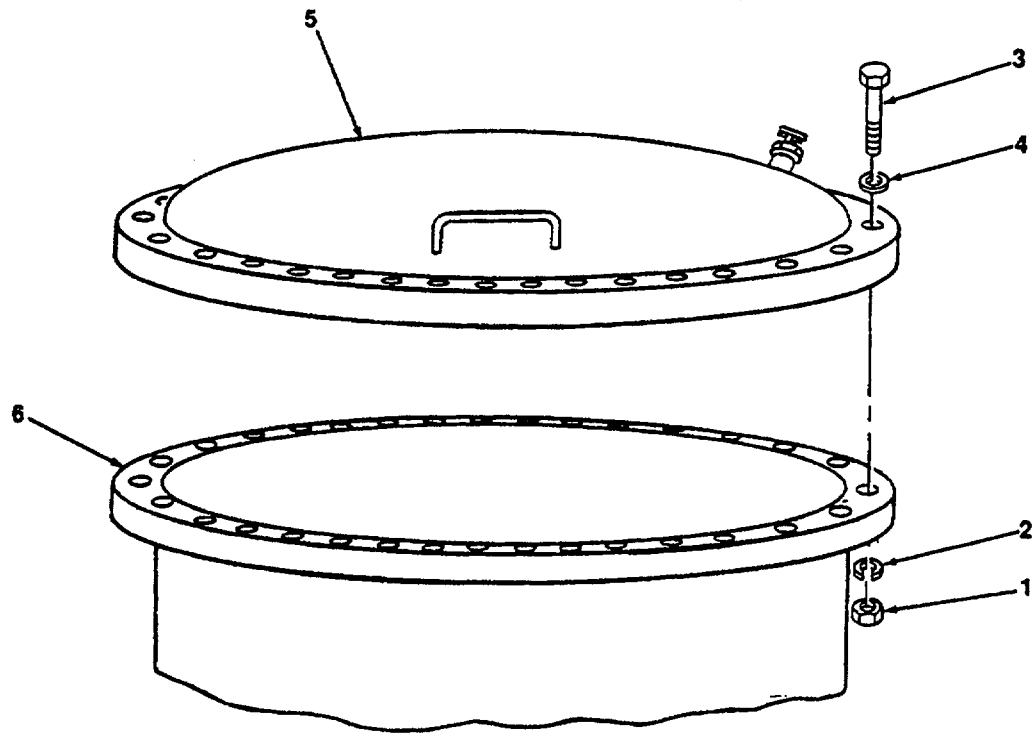
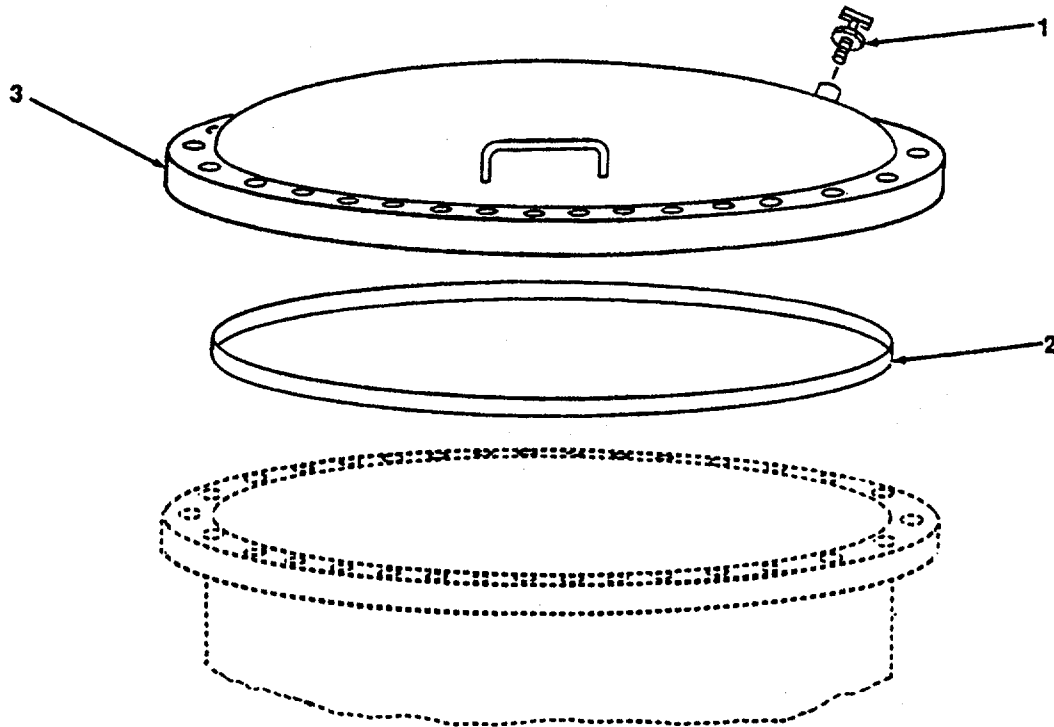

Figure 4-3. Cover Assembly, Replace
Figure 4-4. Cover Assembly, Repair.
a. Removal. (figure 4-3)
- (1) Remove 30 nuts (1), lockwashers (2), bolts (3) and washers (4).
- (2) Remove cover (5) from tank (6).
b. Repair. (figure4-4)
- (1) Unscrew and remove vent pressure valve (1).
- (2) Remove packing (2).
- (3) Inspect all items and replace items that are worn or damaged.
- (4) Coat packing (2) with silicone and install on cover (3).
- (5) Coat threads of vent pressure valve (1) with silicone compound and install on cover (3).
c. Installation. (figure 4-3)